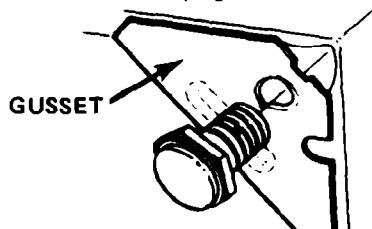

Figure 3
3. Front Leg Assembly (See Figure 3.)